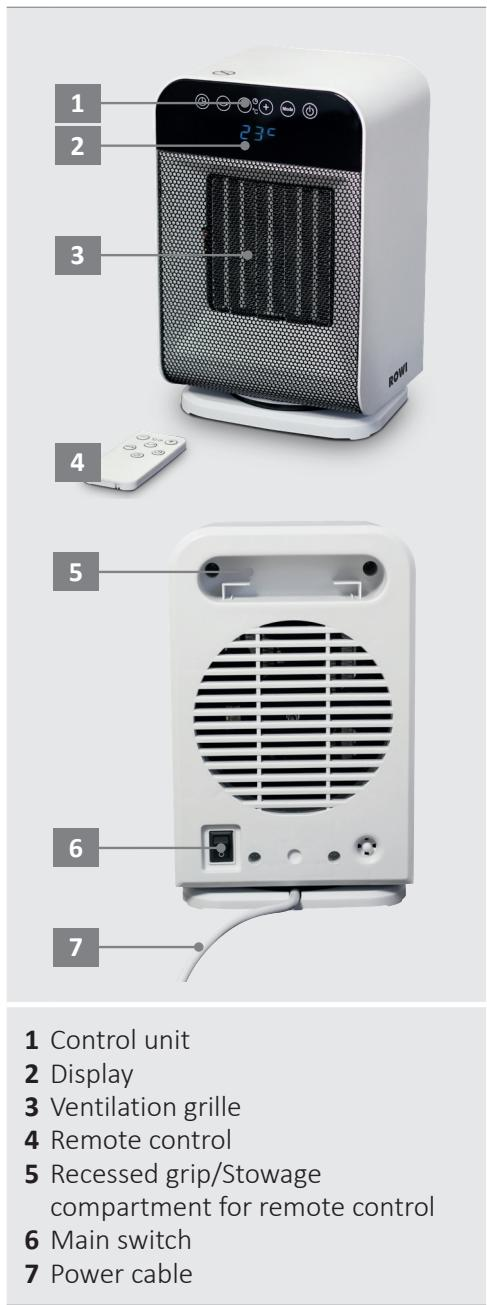

Fig. 1: Appliance overview
1. Make sure the **main switch** (see Fig. 1, No. 6) is at “**0**”. Then connect the ceramic appliance to an earthed socket protected with an earth-leakage circuit breaker.
All the following settings can be made via the control unit (Fig. 1, Nr. 1) or via the remote control provided. Insert a battery (3 V lithium battery CR2025) in the remote control.
2. Then operate the **main switch** (Fig. 1, No. 6) on the rear of the appliance to switch it off fully.